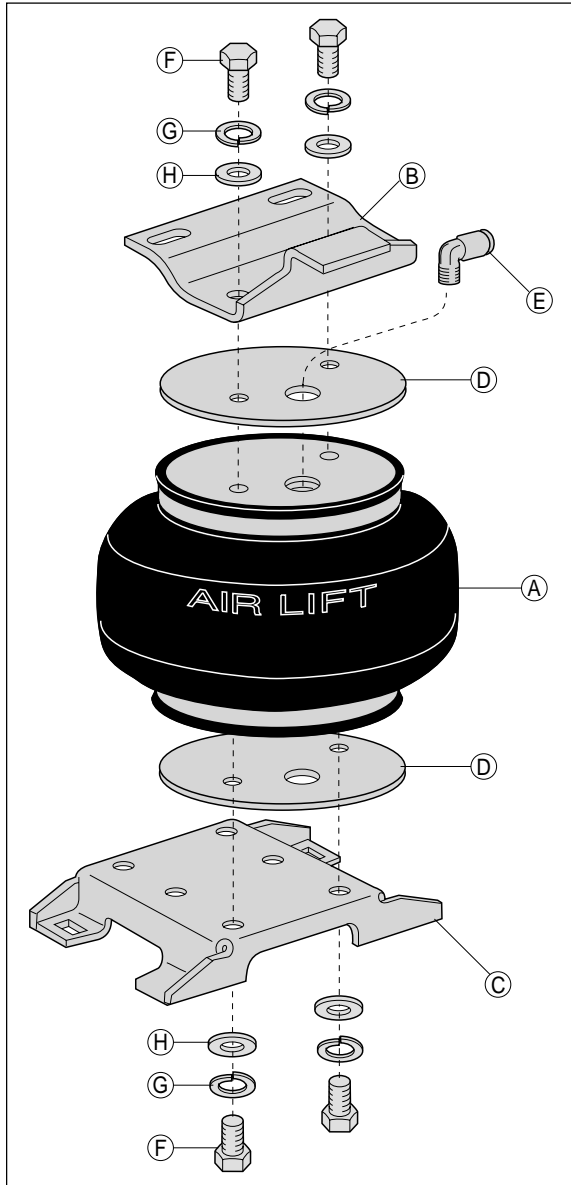

Figure 2
1. Place backer plate (D) on the top of the air spring (A).
2. Install 90° elbow fitting (E) to the top of the air spring. Tighten finger tight plus 1 and $\frac{1}{2}$ turns. Be careful to only tighten on the metal hex nut. Do not over tighten.
3. Set the upper bracket (B) onto the air spring (A). Make sure that the air fitting port is on the same side as the tab. Attach the bellow-bracket assembly using $\frac{3}{8}$ " bolt (F), $\frac{3}{8}$ " lock washer (G), and $\frac{3}{8}$ " flat washer (H). Tighten to 20 ft-lbs (Figure 2).
4. Set a backer plate (D) onto the bottom of the air spring assembly.
5. Place the lower bracket onto the air spring assembly in an offset position (Figure 2).
7. Use a $\frac{3}{8}$ " bolt (F), a $\frac{3}{8}$ " lock washer (G), and a $\frac{3}{8}$ " flat washer (H) through the holes marked with an "A" to attach the lower bracket and backer plate to the assembly. Again, be sure that the bellow is offset to the fitting side. Tighten hardware to 20 ft-lbs (Figure 2).